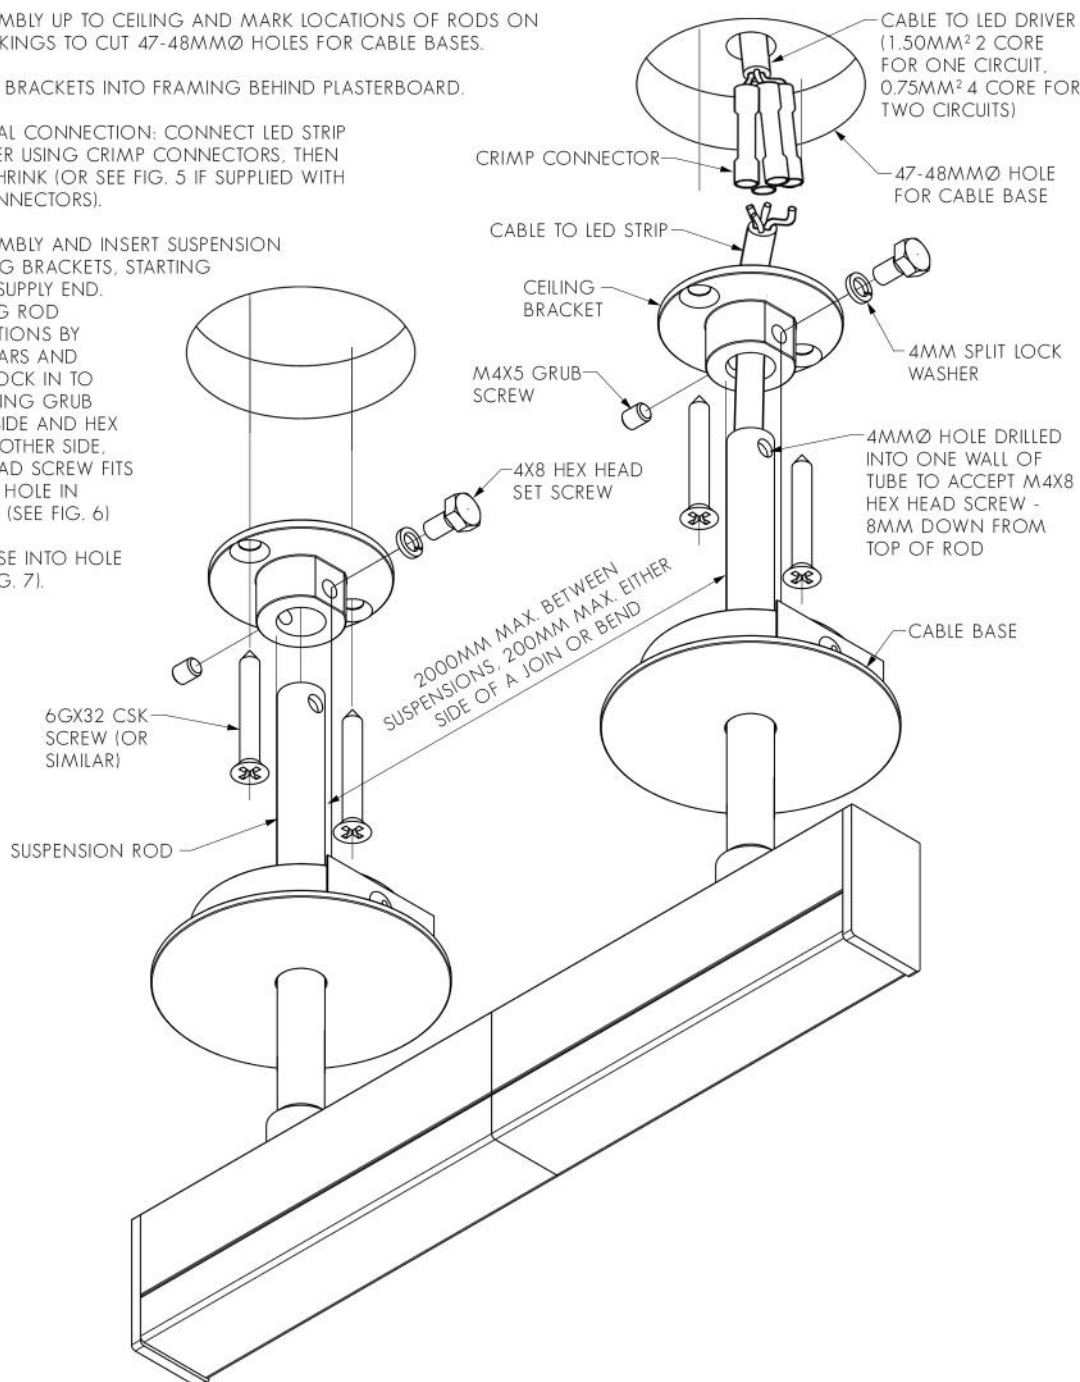

FIG. 5 - MAKE ELECTRICAL CONNECTION
3. MAKE ELECTRICAL CONNECTION: CONNECT LED STRIP TAILS TO LED DRIVER USING CRIMP CONNECTORS, THEN SEAL WITH HEAT SHRINK (OR SEE FIG. 5 IF SUPPLIED WITH MALE/FEMALE CONNECTORS).